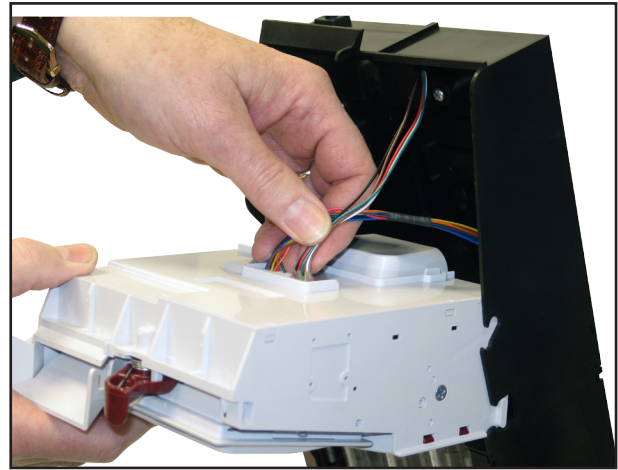

Figure 2
3. Disconnect the two harnesses from the acceptor (see Figure 2). Lift the acceptor slightly to free the lower acceptor studs from the changer housing. Place the acceptor in a clean, dry area.